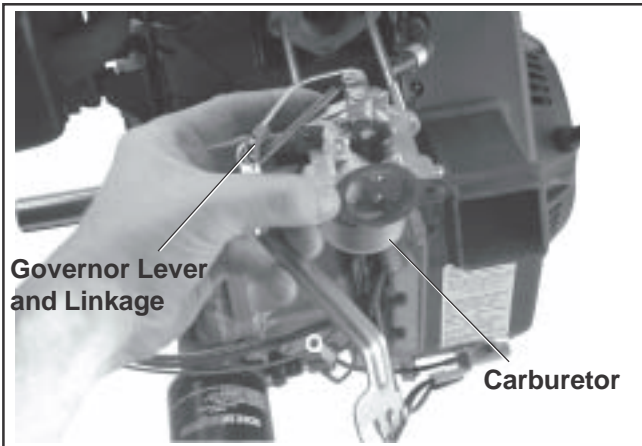

Figure 9-11. Removing Carburetor and Governor Lever.
3. Remove the carburetor and governor lever, with the linkage attached, from the engine. See Figure 9-11.